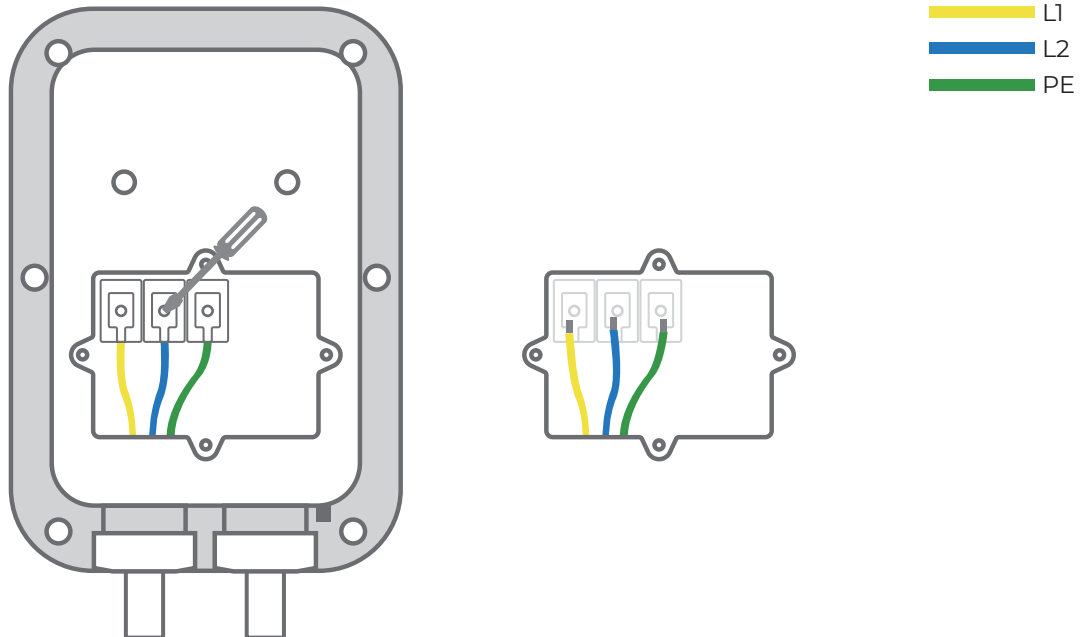

Fig. 5.6.2
2. Remove the three screws with flat-blade screwdriver and take off the cable wire from the terminal block. (See Fig. 5.6.2)